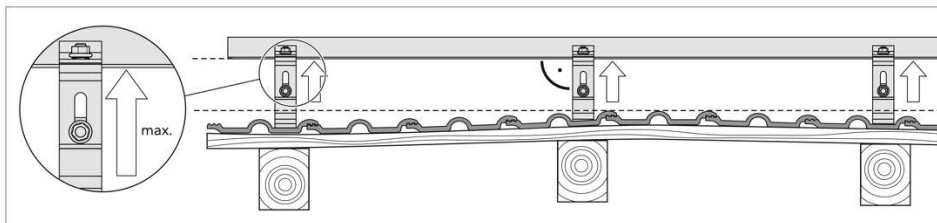

Figure 4.1-b Roof brackets in highest position. Minimum of 90mm between roof and panels is required.
3. Attach the roof brackets to the roof beams or to the roof boarding with the screws provided. Use additional underlayment wood to get the correct height and/or for a sturdier assembly. See Figure 4.1-c